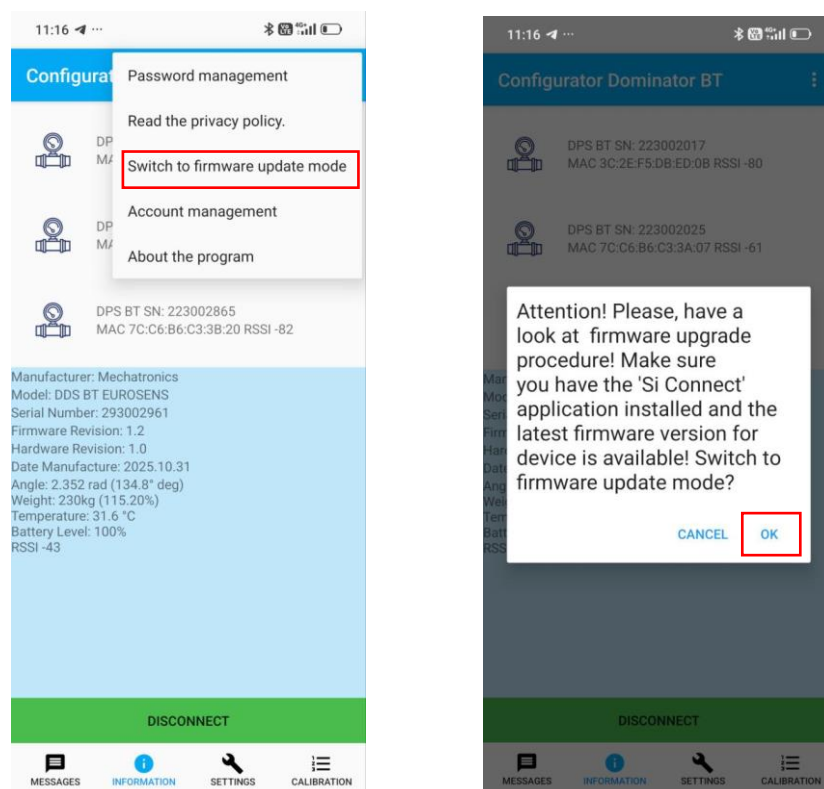

Fig. 9.2. Switch to firmware update mode
4. Select **“Switch to Firmware Update Mode”** and confirm the action (Fig. 9.2).